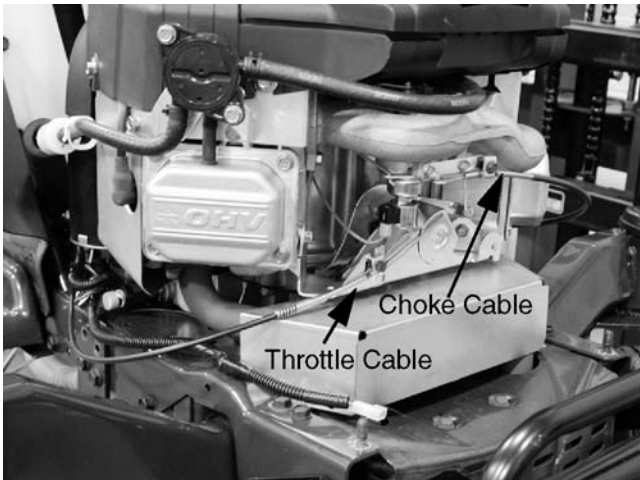

Figure 11-50
17. Mark the positions of the choke and the throttle cables at the engine using paint or a magic marker. See Figure 11-50.